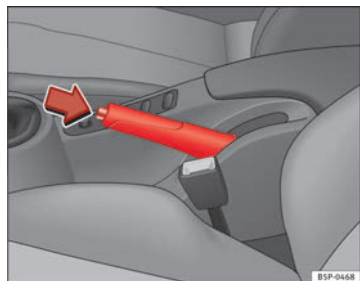

Fig. 148 Handbrake between the front seats
- Pull the handbrake lever up firmly ⇒ fig. 148.
- Pull the lever up slightly and press the release knob in the direction of the arrow ⇒ fig. 148 and guide the handbrake lever down fully ⇒ ⚠.